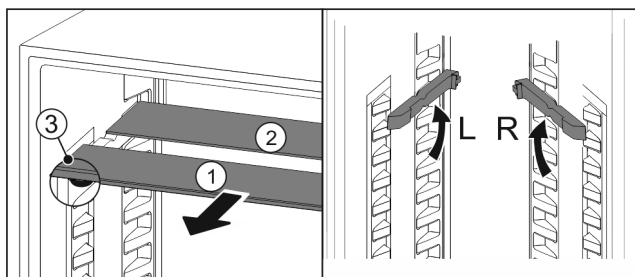

Fig. 94
- Pull the glass panels out Fig. 94 (1) from the front, one at a time.
- The glass panel Fig. 94 (1) and trim strip are at the front.
- The stops Fig. 94 (3) point down.